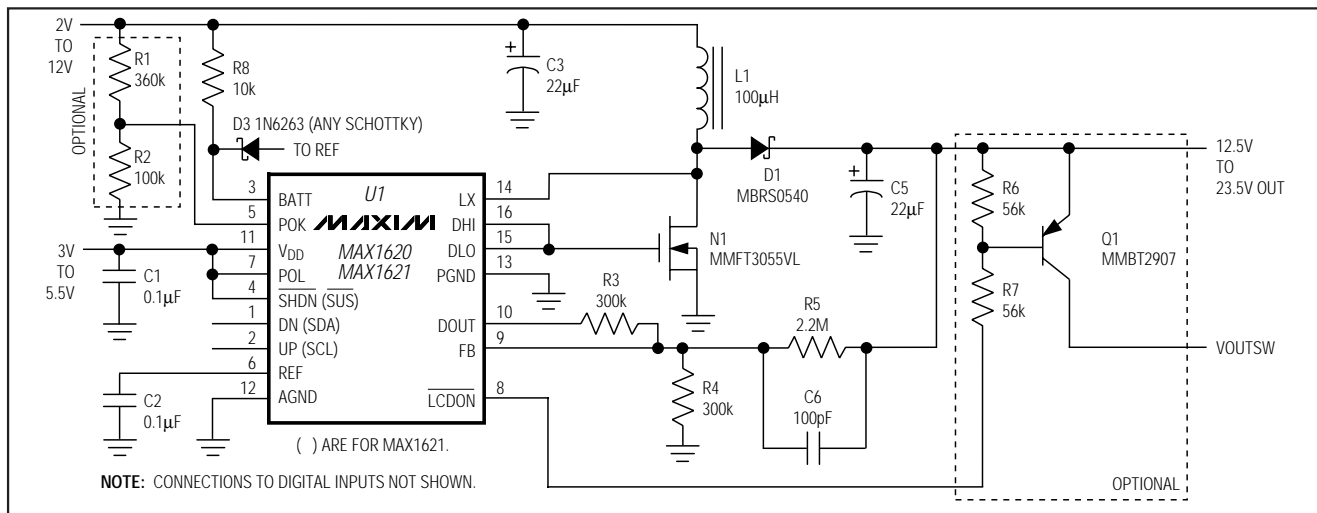

Figure 4. Typical Operating Circuit—Positive Output
To select a positive output voltage, tie the polarity pin (POL) to V_{DD} and use the typical boost topology shown in Figure 4. FB regulation voltage is 1.5V. For optimum stability, V_{OUT} should be greater than 1.1 (V_{BATT}).
To prevent uncontrolled boosting when the output is disconnected, the feedback resistors must sense the boosted voltage rather than the output of the \overline{LCDON} switch (Figure 4).
Separate voltage sources can supply the inductor (L1) and the IC (V_{DD}). This allows operation from low-voltage batteries as well as high-voltage sources because chip bias ($150\mu A$) is provided by a logic supply (3V to 5.5V) while output power is sourced directly from the battery to L1. Conversely, L1 and V_{DD} can also be supplied from one supply if it remains with V_{DD} 's operating limits (3V to 5.5V). If L1 and V_{DD} are fed from the same voltage, D3 and R8 (Figures 4, 5, 6, and 10) can be omitted, and BATT may be connected directly to V_{DD} .
The minimum output voltage is set with a resistor-divider (R4-R5, Figure 4) from V_{OUT} to AGND. The FB threshold voltage is 1.5V. Choose R4 to be 300k Ω so that the current in the divider is about 5 μA . Determine R5 as follows:
The DAC is adjustable from 0V to 1.5V in 32 steps, and 1LSB = 1.5V / 31. DAC adjustment of V_{OUT} is provided by adding R3 to the divider circuit (Figure 4). Be sure that $V_{OUT,MAX}$ does not exceed the LCD panel rating.
- 3) As an input sensing output cutoff for positive outputs. Connect POK to a voltage divider to sense the input voltage. The output is switched on only when the input reaches the set level (Figure 4).
To control the open-drain output LCDON by sensing the input voltage, connect a resistor-divider (R1-R2, Figure 4) from V_{BATT} to POK. Choose R2 = 100k. For example, if the minimum battery voltage is 5.3V, determine R1 as follows: